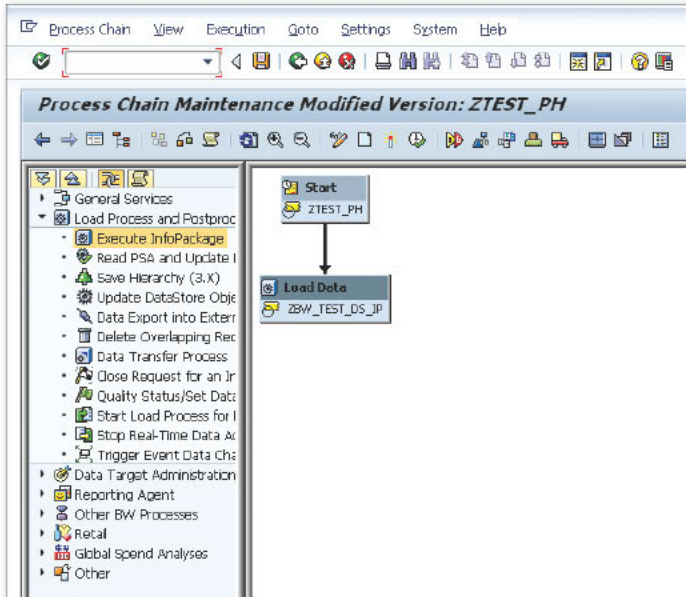

Figure 6 Process Chain for Use with the InfoPackage for the SAP Data Services Job
- Executing the query in BEx reveals one more line below the ENERGY DRINKS text node that has the same name and is input-ready (see Figure 6).
« Figure 6 Input-Ready Hierarchy Node
3. Create a process chain with the previously created InfoPackage as shown in Figure 6 and execute the process chain.